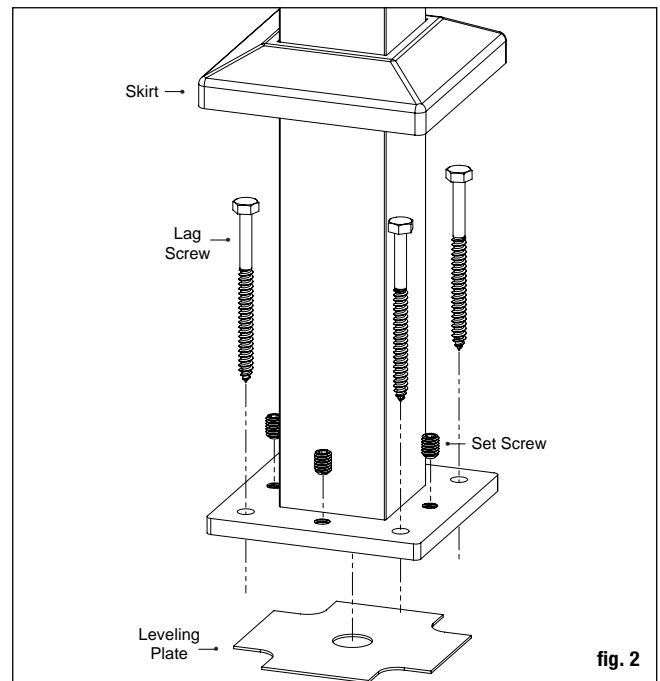

fig. 2
**Step 1** Install posts by attaching the aluminum base to the surface of the deck. Position the post so the fastener will go into the floor joist, and make sure the decking is firmly attached to the joist at the location of the posts. If necessary, use wood blocking securely attached to the joist structure as reinforcement underneath the decking where the posts are located. Fasteners that hold the post base to the surface should be able to secure to joist or reinforcement braces, not just the decking itself. Note: When installing aluminum post on top of a wood surface, screws must be lagged into at least 3" of solid wood (not including the decking), 5/4" or 1 1/2" deck boards do not provide sufficient material for a safe installation. If necessary, add additional material to the underside of the surface (fig. 2).